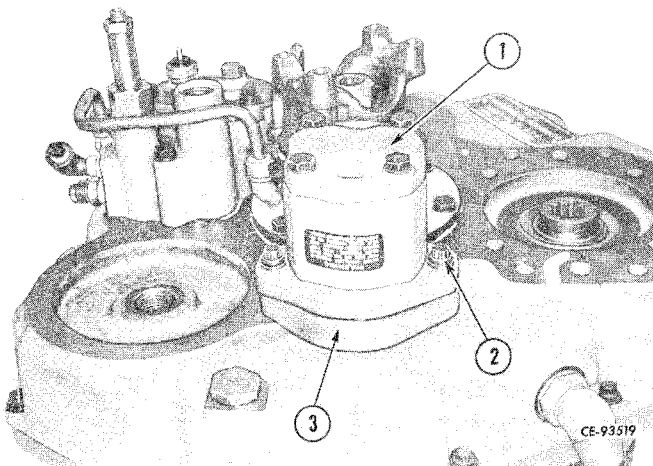

Figure 3-46
Install the charging pump (1, Fig. 3-46) on the adapter (3) and secure with cap screws (2). Tighten cap screws to recommended torque.